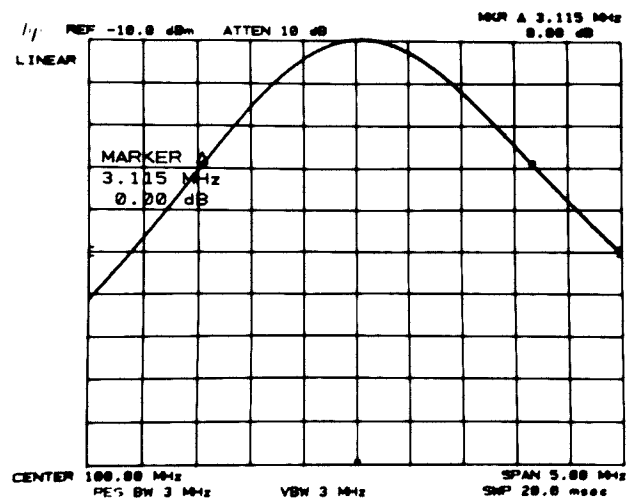

Figure 4-7. Resolution Bandwidth Measurement
7. Press MARKER Δ and position movable marker 3 dB down from the signal peak on the negative-going edge of the trace (the MARKER Δ amplitude readout should be .00 dB ± 0.05 dB). The 3 dB bandwidth is given by the MARKER Δ frequency readout (see Figure 4-7). Record this value in Table 4-5.